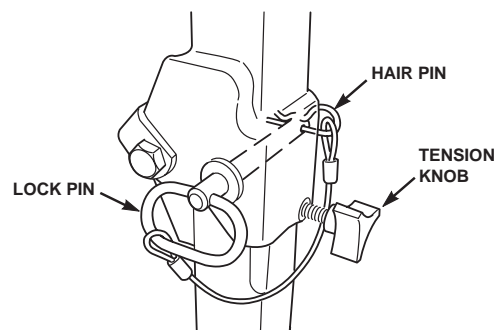

Figure 2-2. ROPS Hinge
2. Remove the hairpin cotter pins and remove the two (2) lock pins. See Figure 2-2.
5. Install the two (2) lock pins through the hole, secure with the two (2) hairpin cotter pins and tighten the tension knobs. See Figure 2-2.